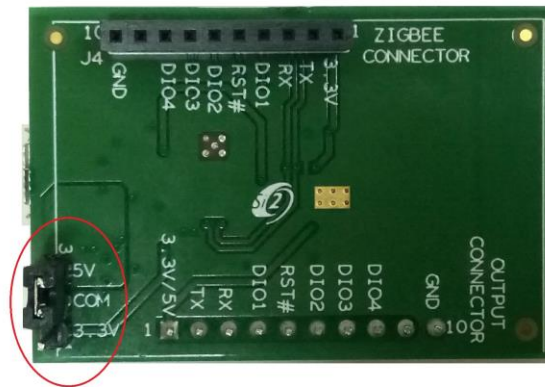

Figure 10: Showing Shorting Jumper placement for 5V selection
1. For interfacing Yoda Adapter board with 5 volt compatible MCU board (For example: Arduino Uno, Mega, Nano), short 5V and COM by shorting jumper and provide 5 volt on 3.3V/5V pin of output connector. [Figure 10]